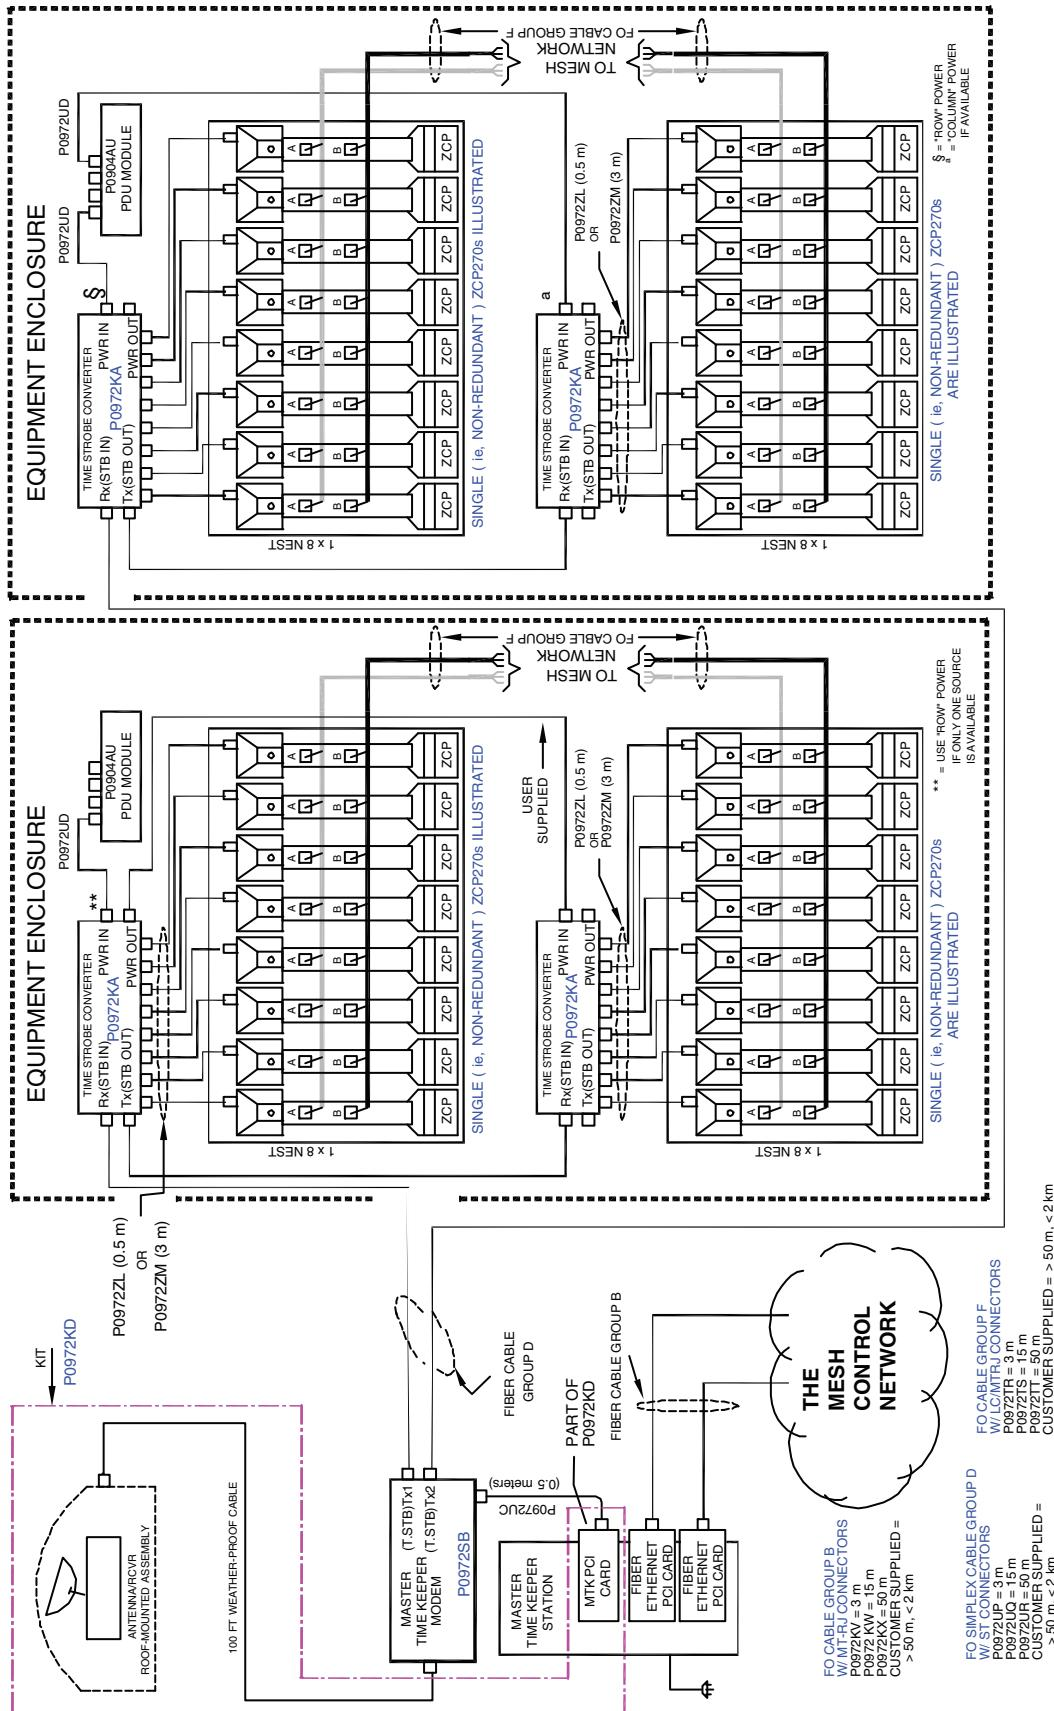

Figure A-10. ZCP270 with Wire Antenna Connection, Non-redundant Cabling
- ◆ Extended Time Strobe Network - ZCP270 with Wire Antenna Connection, Non-redundant Cabling (Figure A-10)